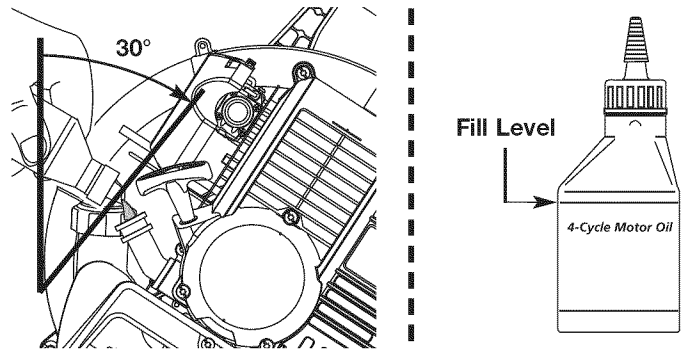

Fig. 23
4. Tilt the unit 30° to the side (Fig. 23).
**NOTE:** Use the bottle and spout saved from initial use to measure the correct amount of oil. The top of the label on the bottle measures approximately 3.04 ounces (90 ml) (Fig. 23). Check the level, See Checking the Oil Level. If the level is low, add a small amount of oil and recheck. Do not overfill (Fig. 23).